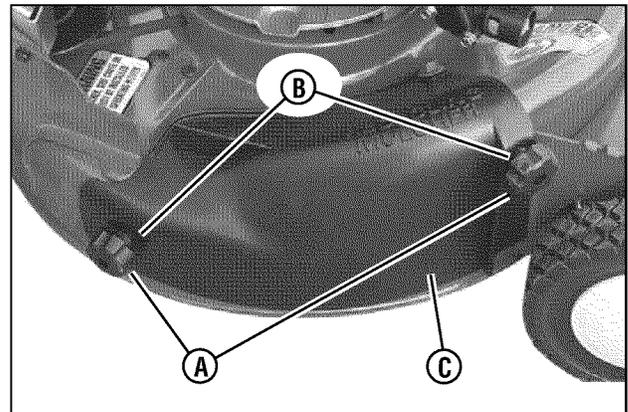

Figure 10: Removing the recycling cover
1. Remove the knob nuts (**A, Figure 10**) and internal/external tooth lock washers (**B**) securing the recycling cover (**C**) to the mower deck.